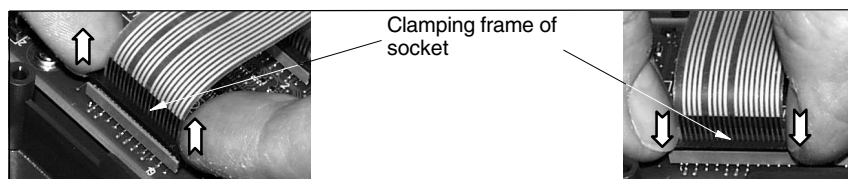

Fig. 33-16 Removal (left) and attachment (right) of a membrane connector (example shows OP 012)
- Remove the override switch, backlight inverter connector and LCD ribbon cable from the board (pull the latter carefully out sideways when the clamping frame has been removed; see Fig. 33-16).